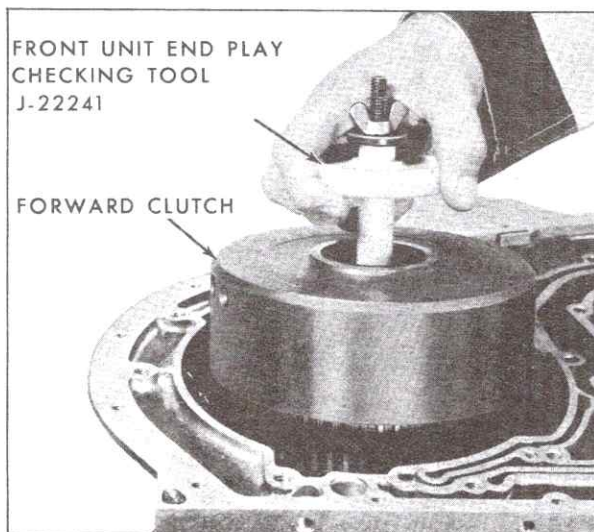

Fig. 7-158 Removing Forward Clutch
1. Remove forward clutch assembly from transmission, Fig. 7-158, by installing Front End Play Checking Tool, J-22241, into forward clutch and lifting forward clutch straight out.